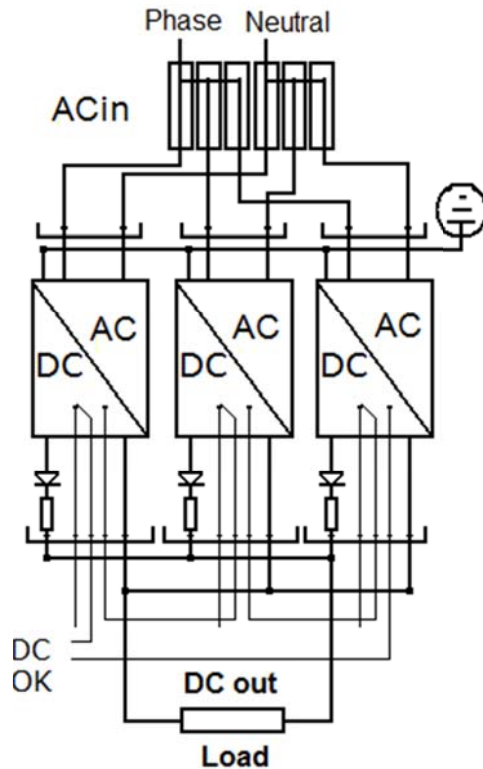

Figure 4. An N+1 system with two units for the load and one for the redundancy
The *Figure 4* shows a N+1 system with two units for the load and one for the redundancy. Each Power supply has a built in; series diode (C), balancing resistor (R) and alarm Relay option B. The alarm is cascade connected. With the CR option a hot plug-in can be achieved if the output voltage is correctly adjusted. Use instruction in *section 4.6 -3 below*.